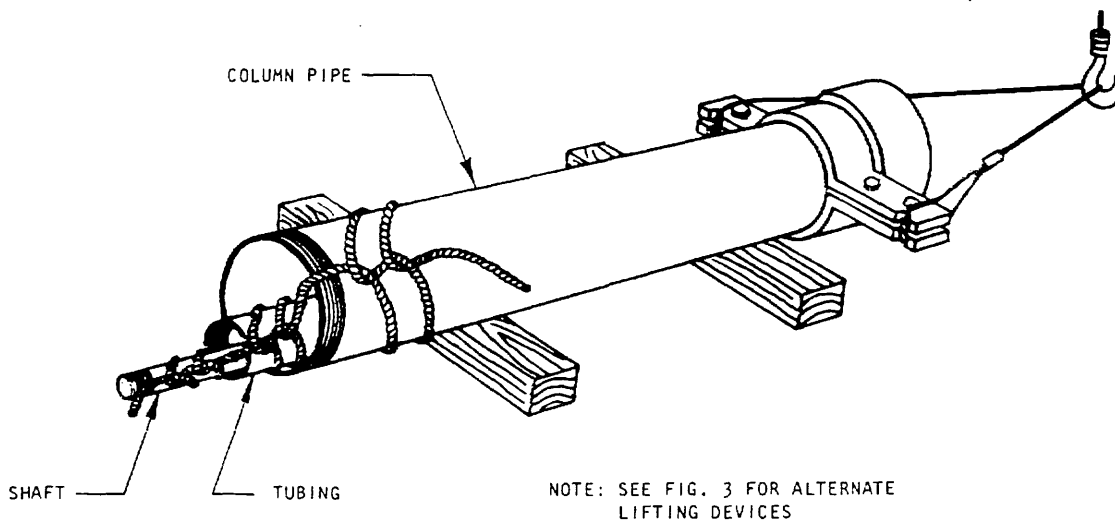

FIG. 13 - ENCLOSED LINESHAFT COLUMN SECTION RIGGED FOR LIFTING
2. Secure a friction clamp immediately beneath the coupling on the first section of column to be installed. If the column is flanged, secure the clamp about 6" below the bottom of the flange. See Fig. 13.
3. If the protective rubber cap has been removed from the end of the tubing to be inserted in the pipe, reinstall it. Slide the tubing and shaft assembly into the lower end of the pipe, allowing the tubing to protrude about 15" past the lower end of the column pipe and allowing the shaft to protrude about 9" past the end of the tubing. See Fig. 13. If the tubing is 5" or larger, ensure that the end with the machined section goes toward the top. Tie a series of half hitches to the pipe tubing and shaft with a $\frac{3}{4}$ " rope so as to prevent the shaft and tubing from sliding out of the pipe when the assembly is hoisted to the vertical position. Attach a sling to the clamp ears. See Fig. 13.